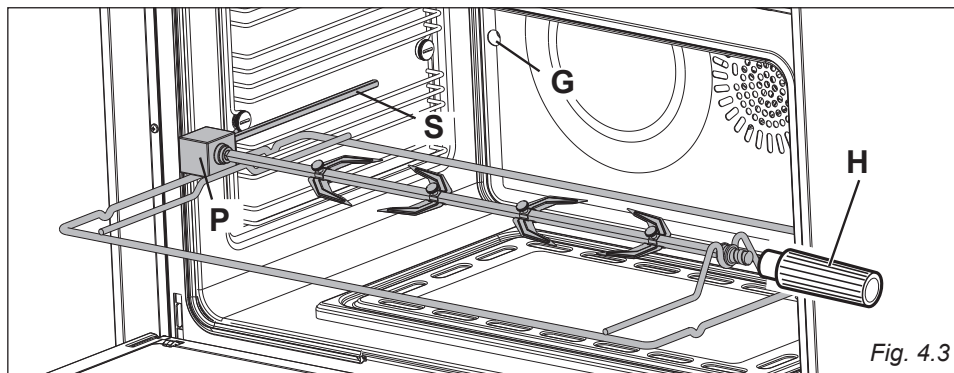

Fig. 4.3
USE OF THE ROTISSERIE (fig. 4.3)
- Insert the rod into the side gear opening "P" (fig. 4.3).